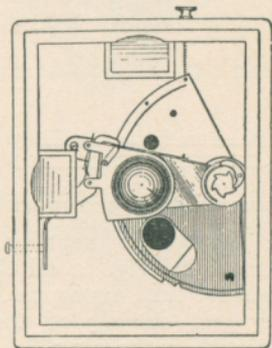

FIG. 1—POSITION OF SHUTTER AFTER INSTANTANEOUS EXPOSURE.
1. To set the shutter open, put in the plug and press the button. This will bring the shutter into the position shown in figure 1.